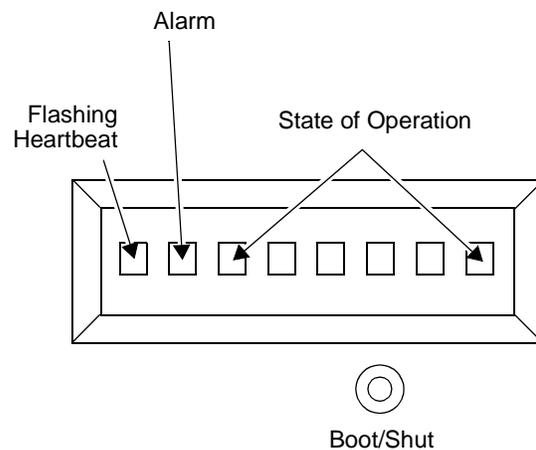

Figure 2-5. MAPD System LCD Display
2. As the MAPD system comes up, watch the Liquid Crystal Display (LCD) on the faceplate (see Figure 2-5). The LCD identifies the MAPD states and alarms.